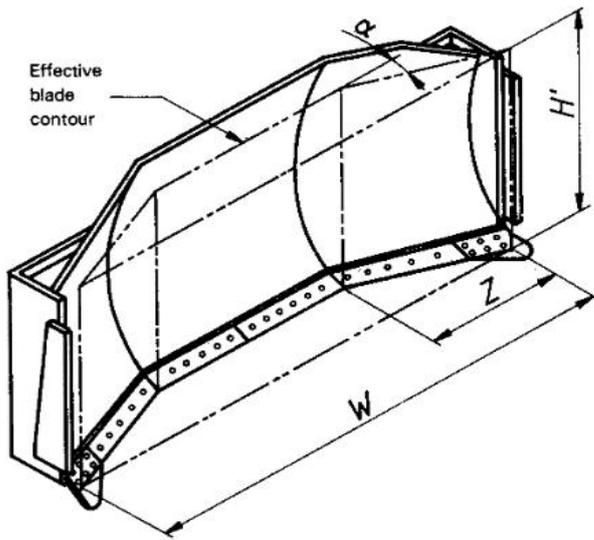

Figure 4 – Effective blade contour of semi-U- and U-blades
3.2.4 effective blade contour : Simplified representation of the blade face for calculating the blade capacity. It is established by intersecting planes extending vertically from the cutting edge at the GRP, with the blade in the mid-pitch position. The frontal dimensions are W and H' (see figure 4).
3.2.5 wing angle, α : Angle, in degrees, measured at the cutting edge on the GRP with the blade in the mid-pitch position. This angle describes the orientation of the intersecting planes that establish the effective blade contour (see figure 4).
3.2.6 wing length, Z : Length, in metres, of the wing measured parallel to the blade width (see figure 4).